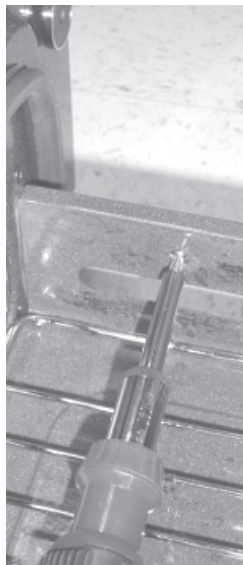

Fig. 1
2. Pull the drawer away from the oven. Using a phillips-head screwdriver remove the two drawer screws from the insides of the front oven drawer compartment (See Fig. 1).